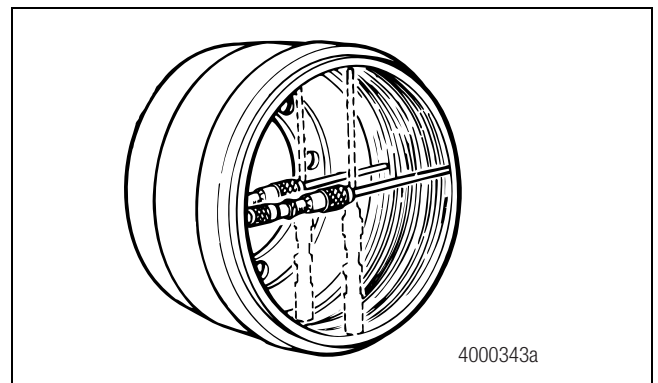

Figure 4.11
- B. Measure the inside diameter of the drum in several locations with a drum caliper or internal micrometer. Figure 4.11.